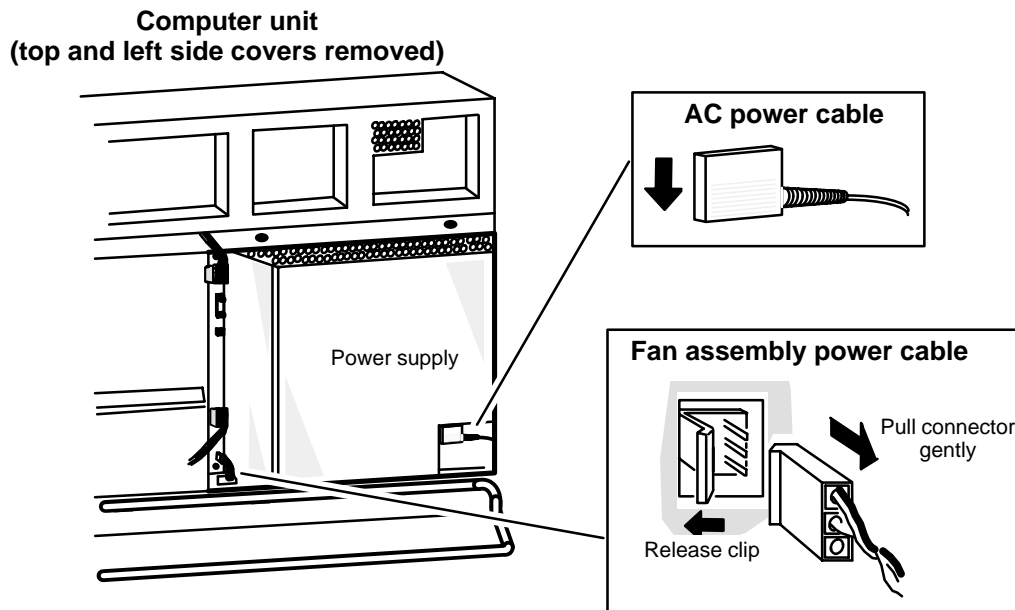

Figure 12-1 Unplugging the AC Power and Fan Assembly Power Cables
1. Unplug the ac power and fan assembly power cables from the power supply as shown in Figure 12-1.